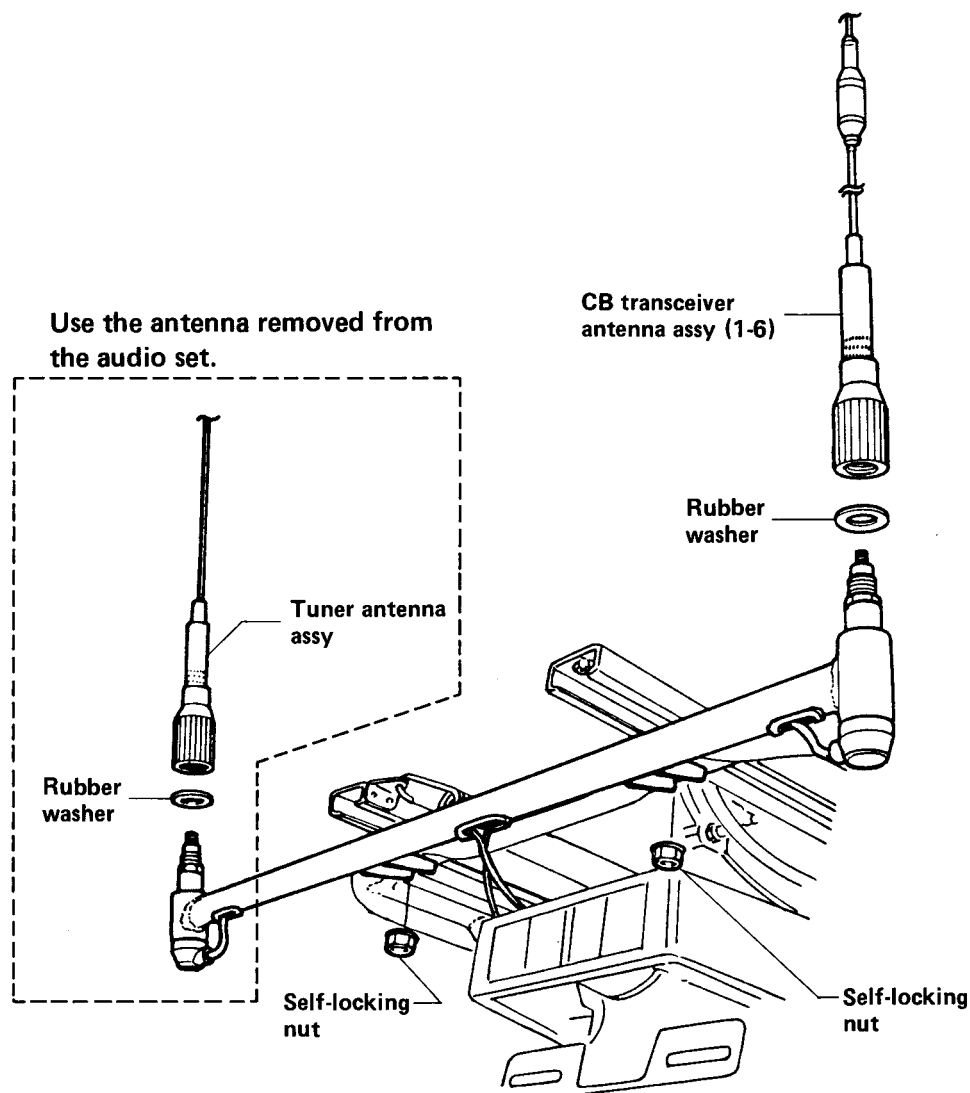

Fig. 17-2
- 4) Secure the antenna bar holder (1-8) to the travel trunk frame using 2 existing self-locking-nuts. See Fig. 17-2.
- 5) Attach the antenna assemblies to the holder (1-8) with a rubber washer between them. See Fig. 17-2.